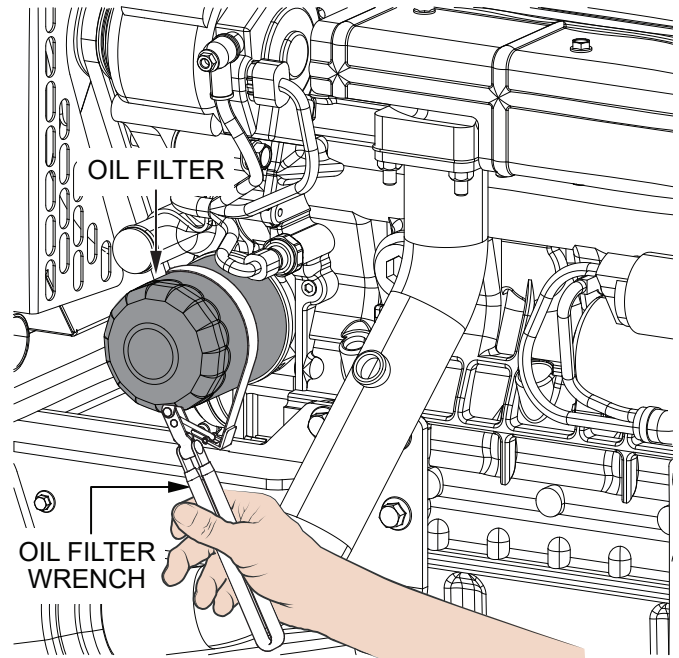

Figure 38. Oil Filter Removal
9. Using a **filter wrench** (Figure 38), remove the **engine oil filter**.